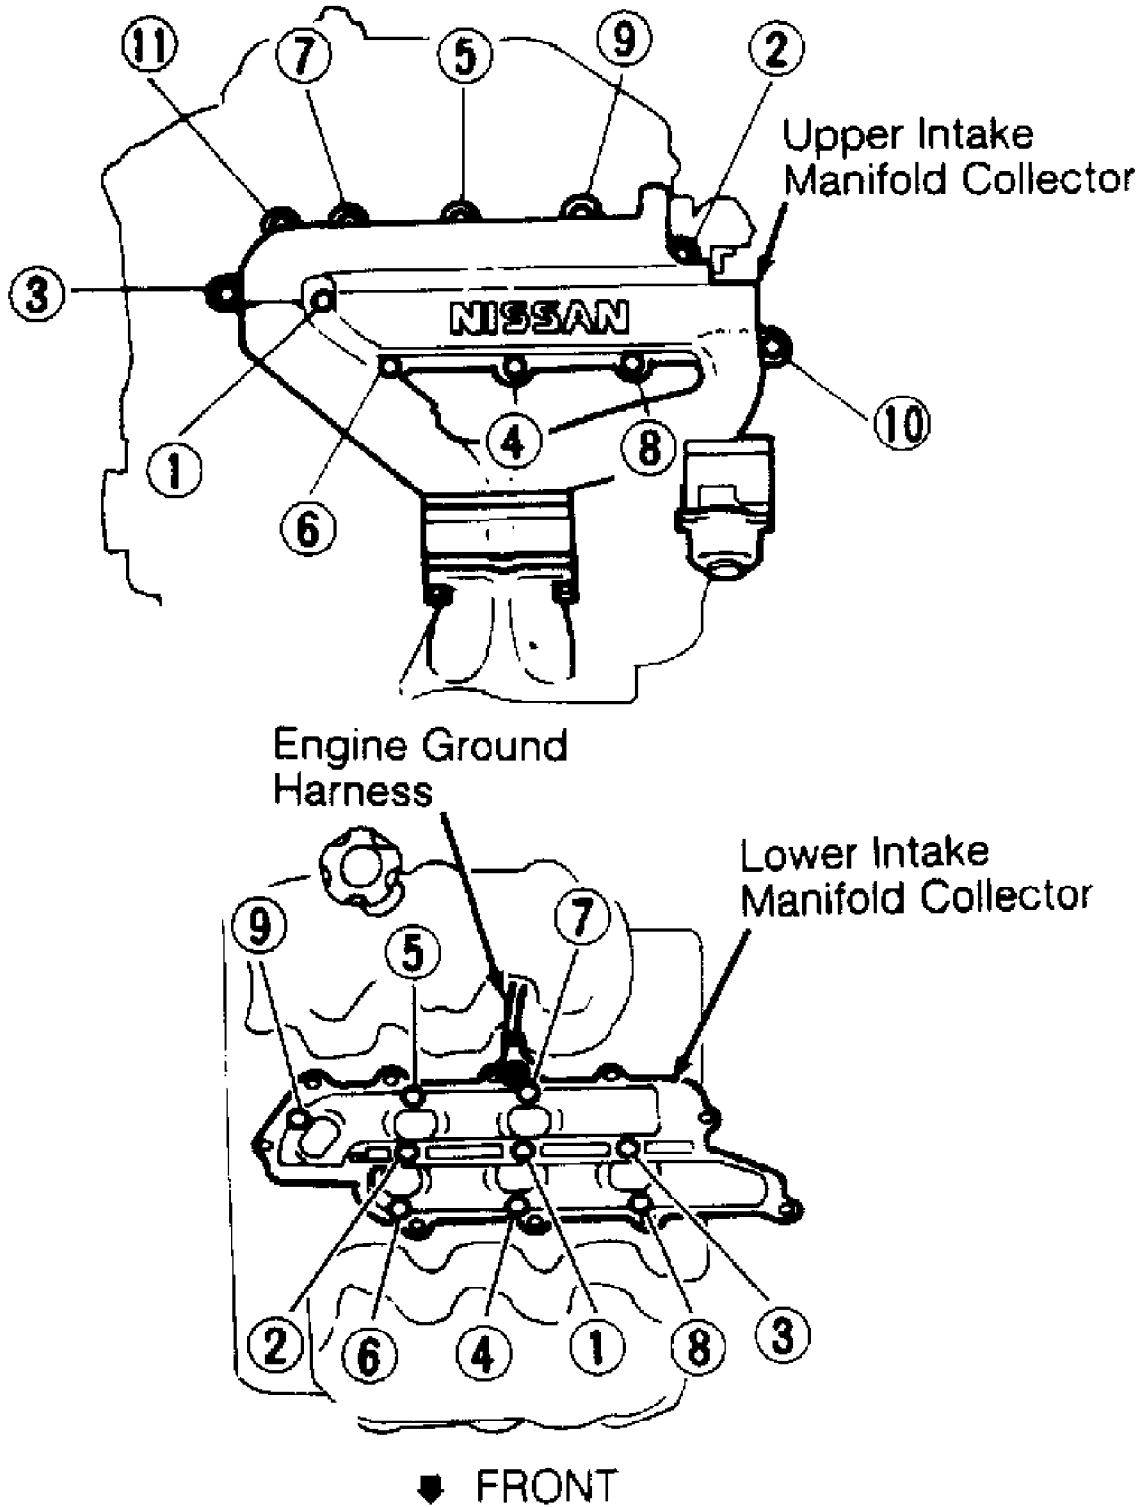

Fig. 2: Upper & Lower Intake Manifold Collector Tightening Sequence (Maxima)
1) Install new "O" rings on injectors and install injectors. Tighten injector holders to 22-29 INCH lbs. (2.5-3.3 N.m). Install fuel rail. Install lower and upper intake manifold collectors and tighten bolts in sequence to 13-16 ft. lbs. (18-22 N.m). See Fig. 2.